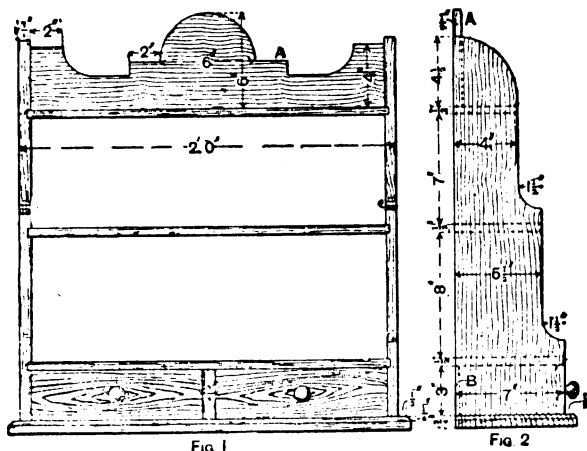

Fig. 1
**Bookshelf with Drawers.**—Fig. 1 shows the front view and Fig. 2 the side elevation of a bookshelf intended to stand on a side table. Details of drawers are not given,